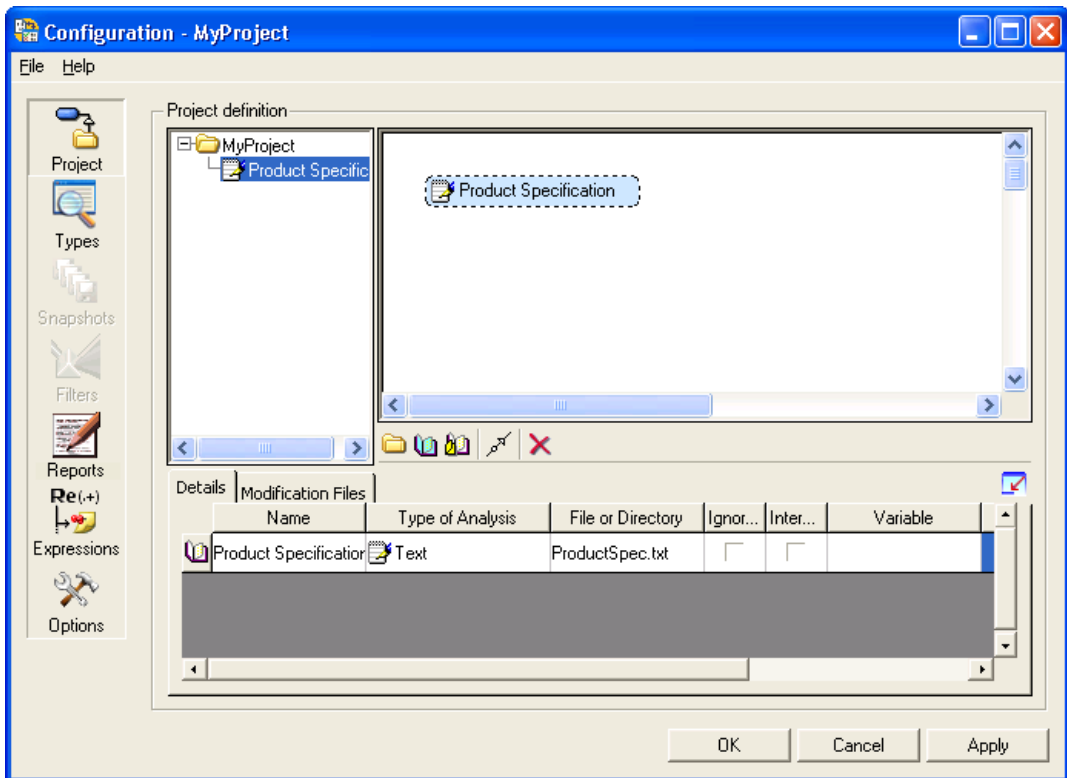

Figure 3-2. Adding a Document to a New Project
4. Click in the **File or Directory** column. The File Browse button is now visible on the right side of the control. Click the **File Browse** button and select `<Requirements Gateway>\Tutorial\ ProductSpec.txt`. Figure 3-2 displays the completed Configuration dialog box.